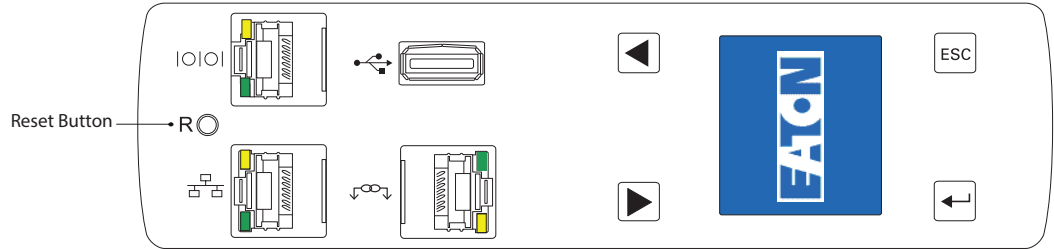

Figure 41. Reset Button
- 3. After 10 seconds, use the reset button to restart the eNMC module and apply the new settings (see Figure 41).